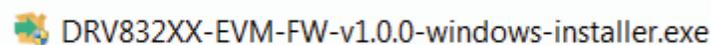

Figure 14. DRV832XX EVM Firmware Executable File
- Step 1. Double click the executable file (.exe) for the DRV832XX reference software installer (see Figure 14).